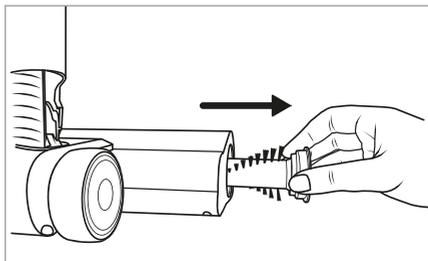

Fig. 27
- 3) Pull the rotary brush **20** out of the floor brush **21** (see Fig. 27).